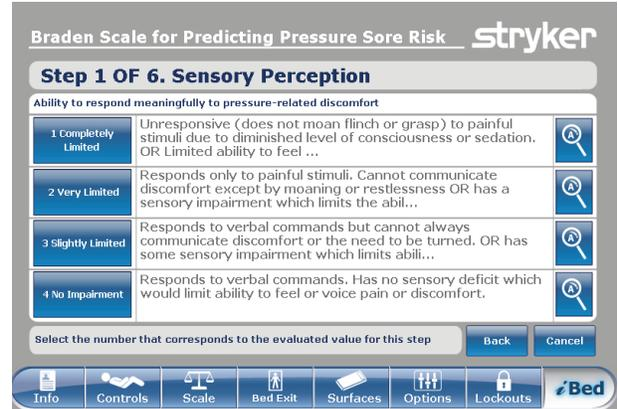

Figure 72: Braden scale for predicting pressure sore risk
2. Tap the corresponding value (1–4) in each category (Figure 72 on page 84).
Note: To view a complete description of a value, tap the magnifying glass icon (Figure 72 on page 84). Another window appears with the complete value description (Figure 73 on page 84).